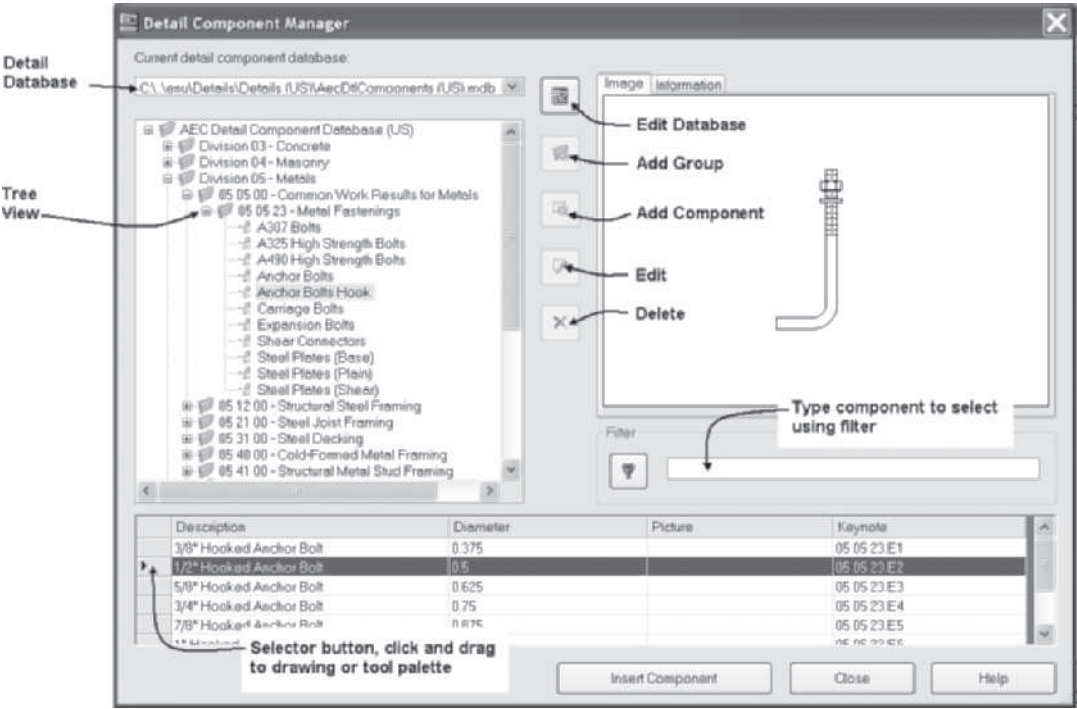
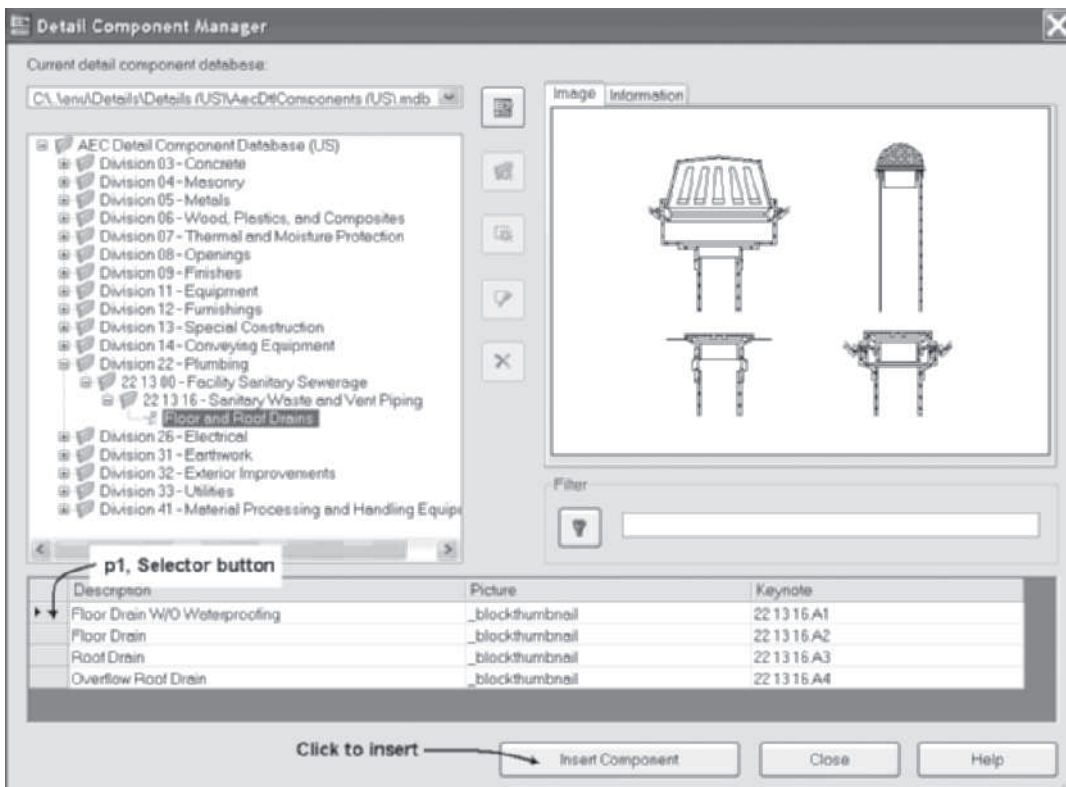

FIGURE 12.39 Detail Component Manager
FIGURE 12.41 Division 22-Plumbing
The **Detail Component Manager** shown in Figure 12.39 includes components categorized in the MasterFormat™ 2004 [NBS Building] (National Building Services) divisions. The database for the details can be selected from the **Database** drop-down list shown in Figure 12.39. The database is specified in the AEC Content tab of Option. The resources are located at {Vista—C:\ProgramData\Autodesk\ACA 2011\enu\Details\Details (US)\AecDtlComponents (US).mdb} or {Vista—C:\ProgramData\Autodesk\ACA 2011\enu\Details\Details (UK)\AecDtlComponents (UK).mdb}.
palette, right-clicking, and choosing **Detail Component Manager**. Division 22 of the Detail Component Manager is shown expanded in Figure 12.41. The properties of the selected component are displayed in the lower pane. The keynote number based upon Construction Specification Institute format is listed for each component. The keynote number can be identified with the keynote tools located on the Annotation tool palette. Details can be inserted from Detail Component Manager directly if you double-click the **Selector** at **p1** or select the component and then click the **Insert Component** button shown in Figure 12.41. You can customize a selected detail component by clicking the **Edit Database** button shown in Figure 12.39 and editing the size and description of a component in the database.